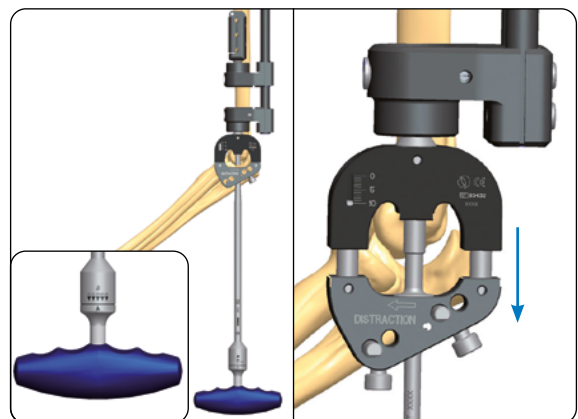

Fig. 13a
12) Apply joint distraction by turning the Micrometric Distraction Mechanism with 5mm Torque Wrench (93440), which indicates the distraction force (9 Nm correspond approximately to 100 Kg of distraction force) **(Fig. 13a e 13b)**. Joint distraction is checked under image intensification and the appropriate amount of distraction should be decided by the surgeon, in accordance with clinical and radiological findings.